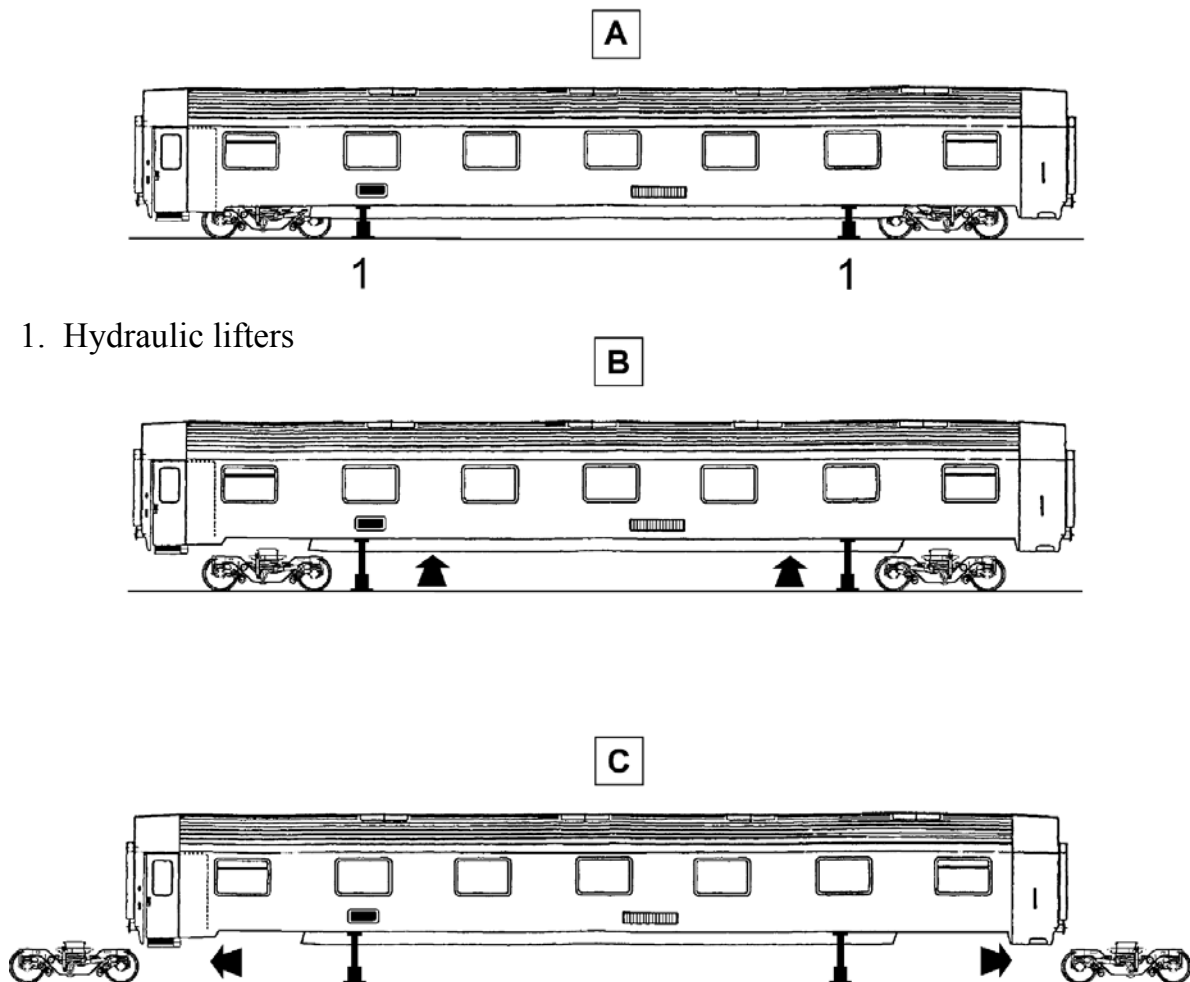

FIG. 4-18 REMOVING THE BOGIE FROM UNDER THE CAR BODY
- A. Put four hydraulic lifters (1 - FIG. 4-18) under the sides of the car body.